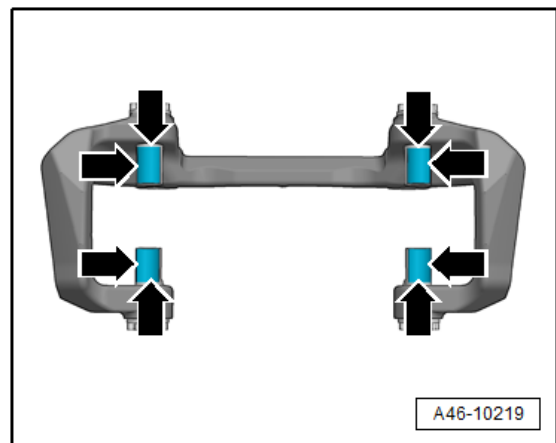

Figure 4. Caliper carrier guide pins with anti-seize (**G 052560A2**) lubricant applied where the pads make contact.
2. Apply a thin coat of anti-seize (**G 052560A2**) lubricant to the guide pins of the caliper carrier (Figure 4).